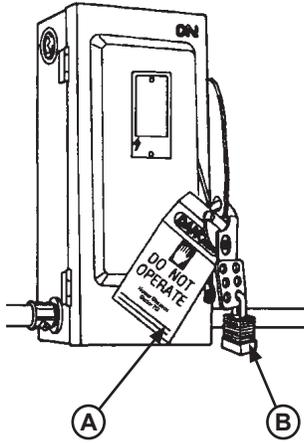

Figure 26
When working with electrical or electronic controls, make sure that the power source has been tagged (A) and locked out (B) according to OSHA regulations and approved local electrical codes (see Figure 26).